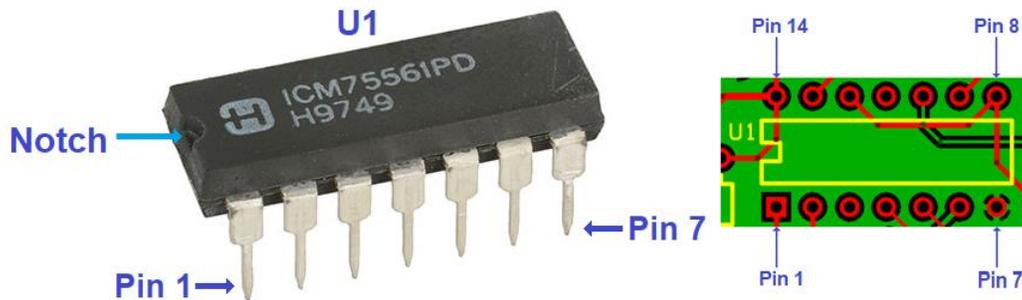

Figure 11
40) Referring to Table 3 of the Tables and Figures sheets, remove dual general-purpose timer U1 from the Flasher/Audio Alert kit package. Using Figures 11 as a guide, **CAREFULLY** press U1 into its socket.